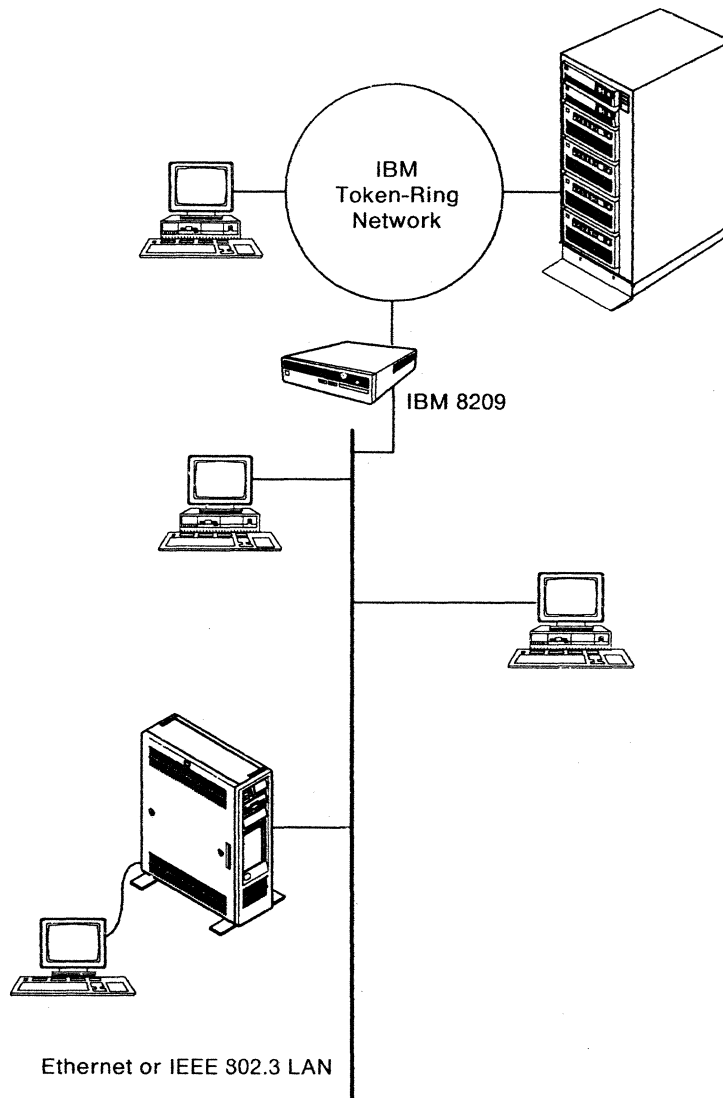

Figure 1-2. The IBM 8209 between IBM Token-Ring and Ethernet Networks
A simplified network connection diagram using the IBM 8209 is shown in Figure 1-2 on page 1-2. In this figure, the IBM 8209 connects an IBM Token-Ring Network segment and an Ethernet** or IEEE 802.3 LAN segment.
- Stations that are connected to a single IBM Token-Ring Network segment and stations that are connected to another LAN segment, with both LAN segments connected to the same IBM 8209 (as shown in Figure 1-2 on page 1-2).